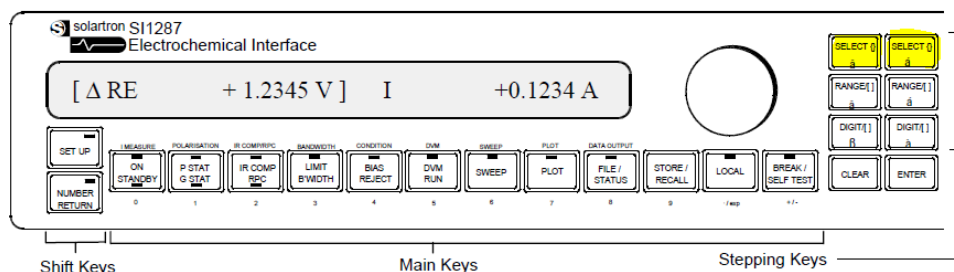

Figure 6
- As the text on the screen is shown in curly brackets, use the arrows in curly brackets {} (Figure 6) in the “stepping keys” section to run through the selections until reaching the word “status” (press down arrow 3x).